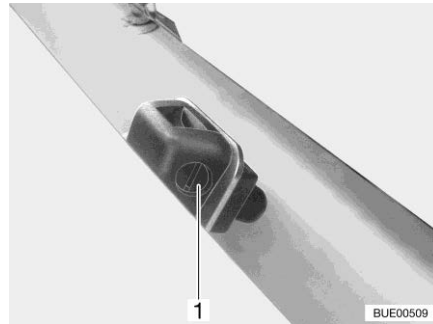

Fig. 41 Washer nozzles
- Use a suitable screwdriver to turn the adjusting screw (Fig. 41,1) until you reach the desired position.